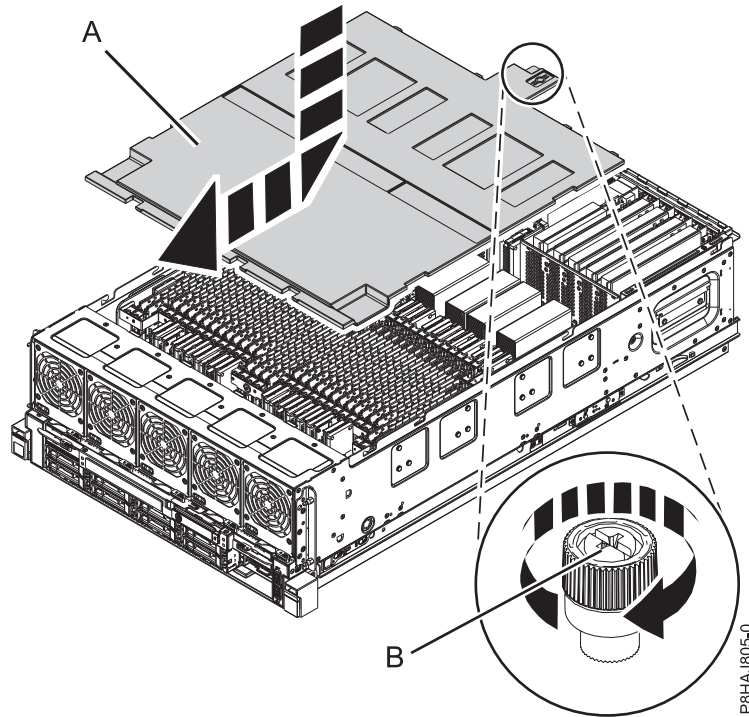

Figure 21. Replacing the safety cover
2. Push the safety cover (A) toward the chassis.
3. Tighten the thumbscrew (B) by turning it in the direction shown in Figure 21 on page 47 to fix the safety cover to the chassis.